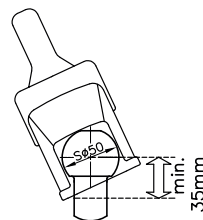

Fig. 1:
1.3 WS 3000/3500 ball couplings can only be used with coupling balls pursuant to DIN 74058 / ISO 1103 if the ball neck is **free from fittings over a distance of 35 mm** (Fig. 1) (instead of 32 mm pursuant to DIN 74058 / ISO 1103).